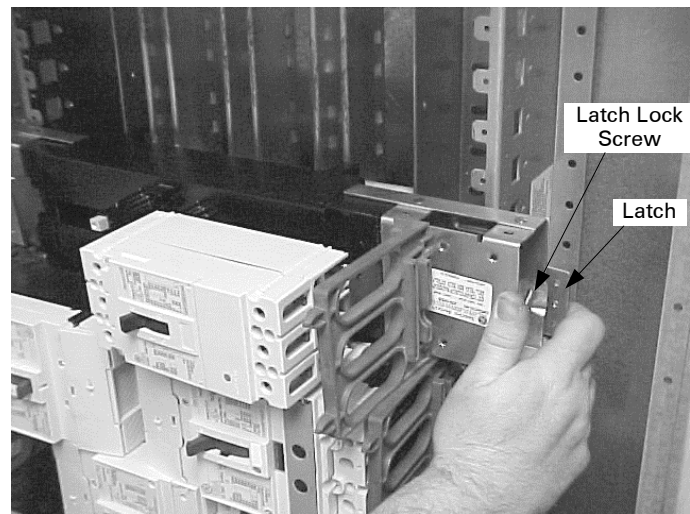

Figure 6. Positioning the breaker module.
- 4. Position the breaker module.** Loosen the latch lock screws and fully retract the latches. Line up the guide fingers on both ends of the module with the notches in the panelboard interior rails, as shown in Figure 6.